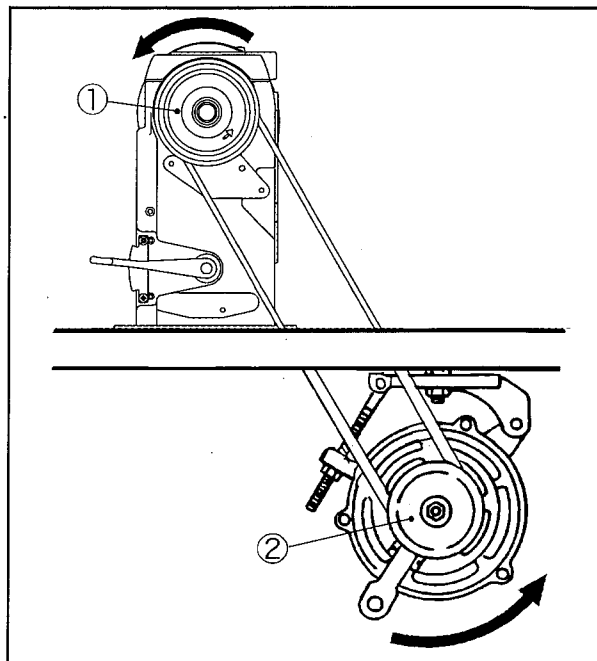

Fig.9
The rotating direction of the machine pulley ① and the motor pulley ② is counterclockwise as shown in Fig. 9.